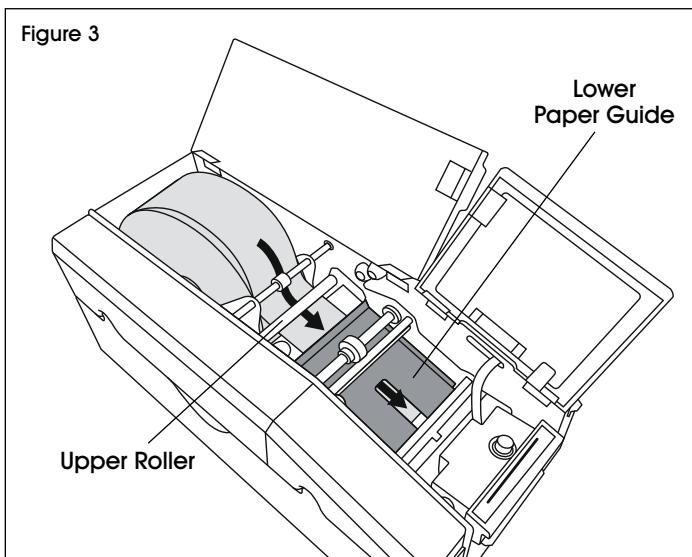

Figure 3
3. Feed tape under upper roller and under the lower paper guide. (See Figure 3)